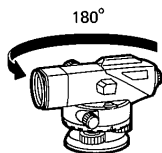

Fig.7.1
- 1) Adjust the leveling foot screws ⑥ to center the bubble in the circular level ⑤.
- 2) Turn the instrument 180° (or 200 gon). (Fig.7.1)